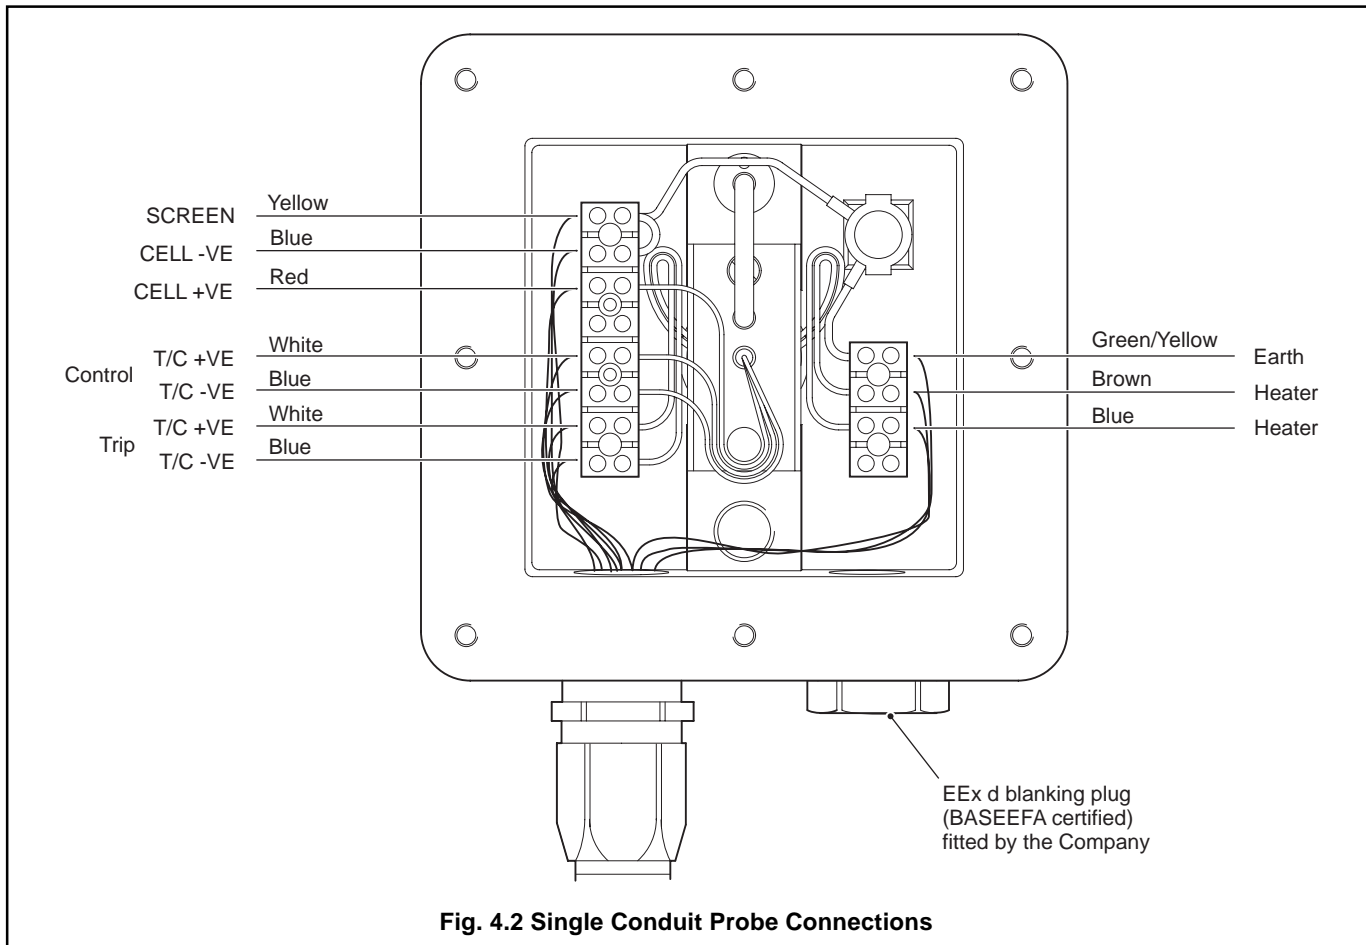

Fig. 4.2 Single Conduit Probe Connections
4.2.2 Single Conduit Probe Connections – Fig. 4.2
When making connections, ensure that the cables are routed correctly as shown in Fig. 4.2 (single conduit), Fig. 4.3 (dual conduit) or Fig. 4.4 (dual cable).